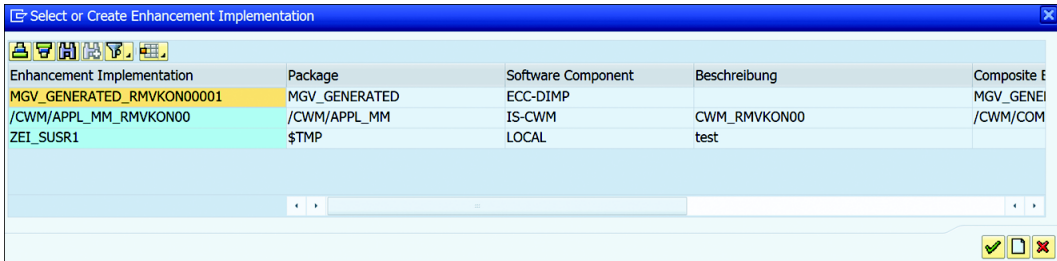
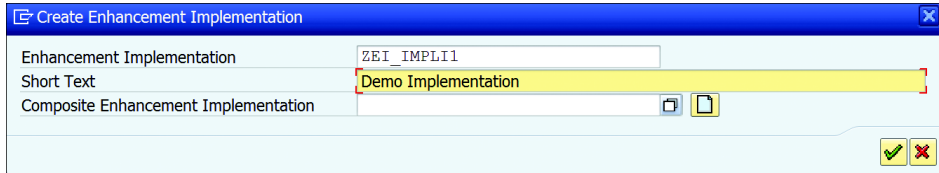

Figure 20.53 Selecting or Creating Implementation
Figure 20.54 Creating New Implementation
2. Right-click the enhancement point and select ENHANCEMENTS • CREATE IMPLEMENTATION from the context menu. This will open the SELECT OR CREATE ENHANCEMENT IMPLEMENTATION window (see Figure 20.53). Here, you can select any existing enhancement implementation or click the CREATE button to create a new implementation.
your implementation, as shown in Figure 20.54. Save the enhancement implementation to your customer package. The new enhancement implementation now will appear in the list shown in Figure 20.53. Double-click the enhancement implementation name to select it.